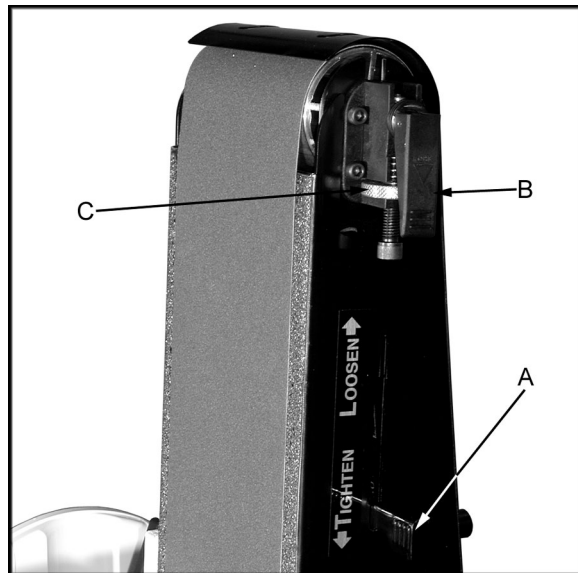

Figure 10
2. Disconnect the machine from the power source. Move the tension handle (A, Fig. 10) to the "Loosen" position. Center the belt again and move the handle to the "Tighten" position.
3. Release the tracking lock (B, Fig. 10) by pulling up on the handle. If the belt has a tendency to track left of center, turn the adjusting knob (C, Fig. 10) counterclockwise until the belt tracks in the center.
6. Fine tune tracking by turning the adjusting knob (C, Fig. 10).